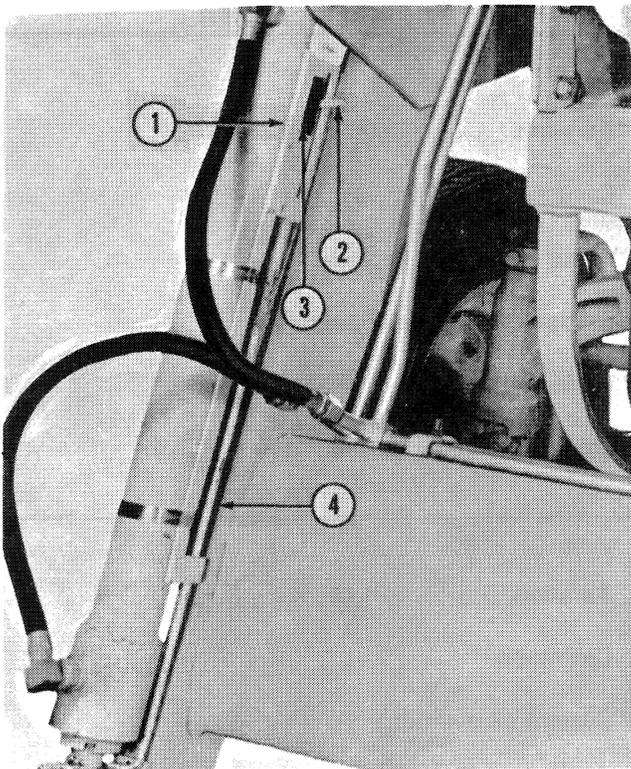

Figure 18
The bucket level indicator (1), Figure 18, is attached to the right side bucket cylinder with clamps as shown.
1. To check for proper adjustment, position the bucket so the bottom is resting flat on a smooth level surface. The pointer (2) should be in the center of the reflective tape (3) when the in-